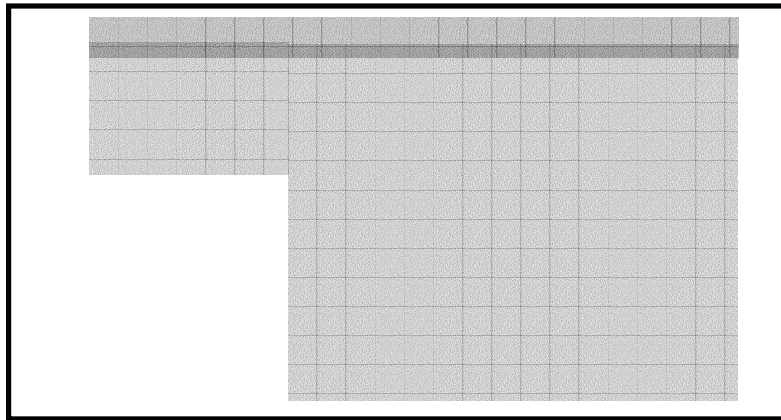

Figure 9.8 Selection of Programming and Verification
- **Programming Time Display:** Including Time Displaying, Overview of Operation, as shown in the Figure 9.8.